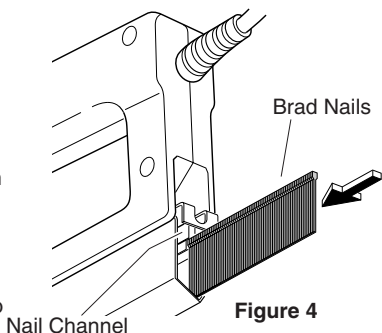

Figure 4
- Insert nails into nail channel through rear of nail chamber (see Figure 4). Make sure nail points are towards bottom of tool.